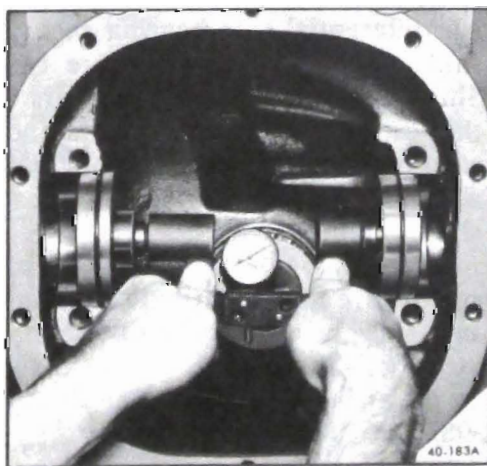

Figure 40-153 Checking Pinion Depth
8. Be certain that differential bearing support bores are free of dirt and burrs. Place indicator gage in carrier so that small diameter of Disc J-5647-41 and large diameter of Disc J-5647-42 rest in differential bearing pedestal support bores. Hold indicator gage as shown in Figure 40-153. Spring-loaded center of gage must